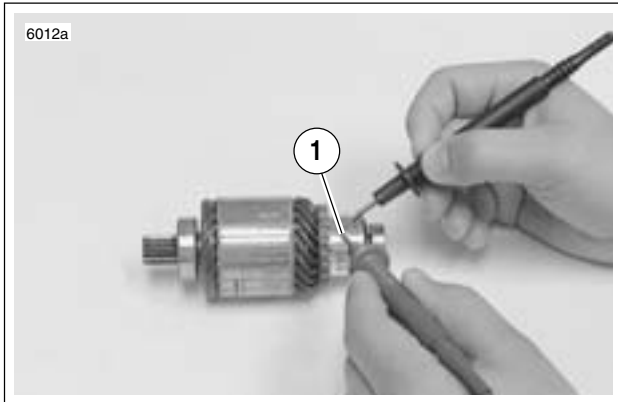

Figure 5-21. Open Armature Test
11. See Figure 5-21. Check for OPEN ARMATURE with an ohmmeter or continuity tester.
- Check for continuity between all commutator segments (1).